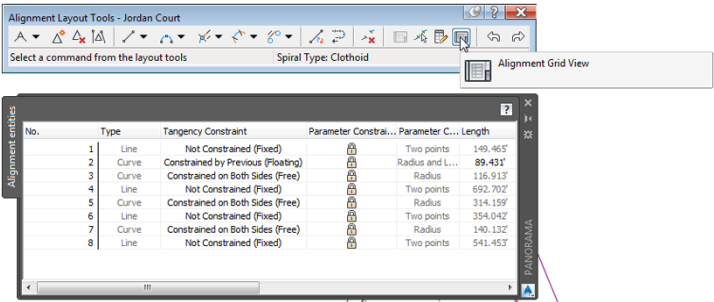

FIGURE 5.13 The Alignment Entities tab of Panorama showing the tabular data of the alignment
3. Click Alignment Grid View to open the Alignment Entities tab and display the tabular version of the alignment geometry, as shown in Figure 5.13.
4. For the Radius values for items 2 and 3, type **150 (45)** and press Enter. Notice that the alignment updates automatically in the drawing.